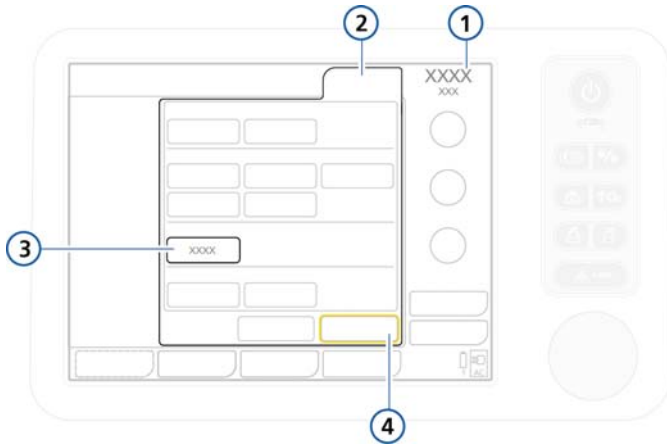

Figure 4-4. Changing the mode, Modes window
1. Open the Modes window. See Figure 4-4.